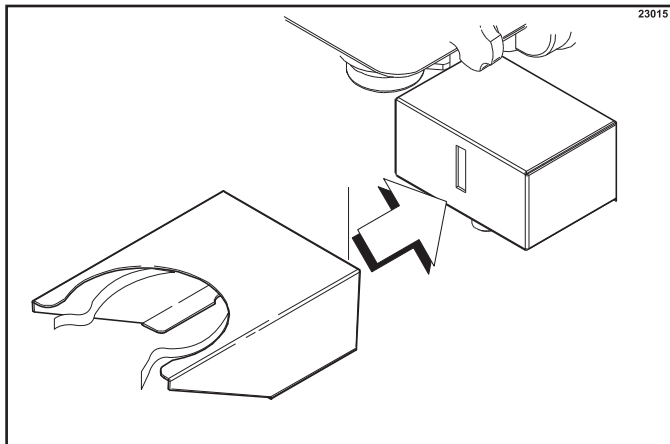

Figure 6-41
3. Install the shake cup holder. (See Figure 6-41.)